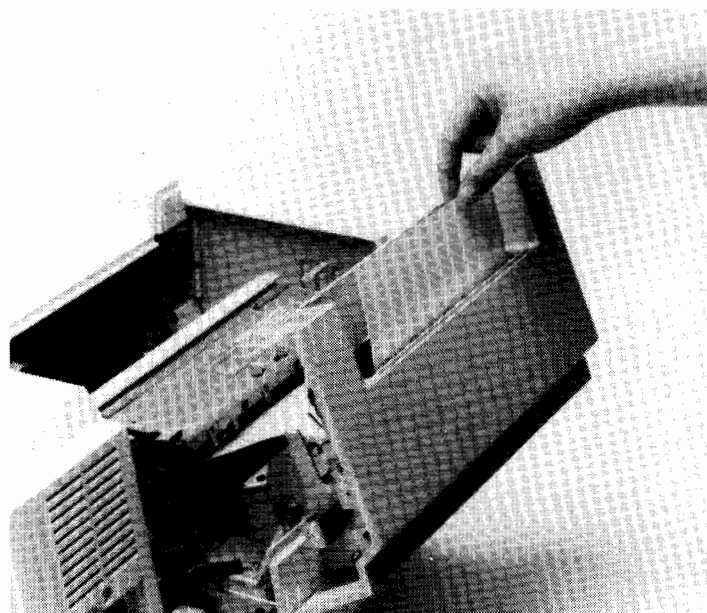

Figure 5-4. Removing Misfed Paper
- c. Remove the misfed paper (figure 5-4). If no paper is found or the trailing edge of the paper is in the fusing unit, follow the procedures described below.